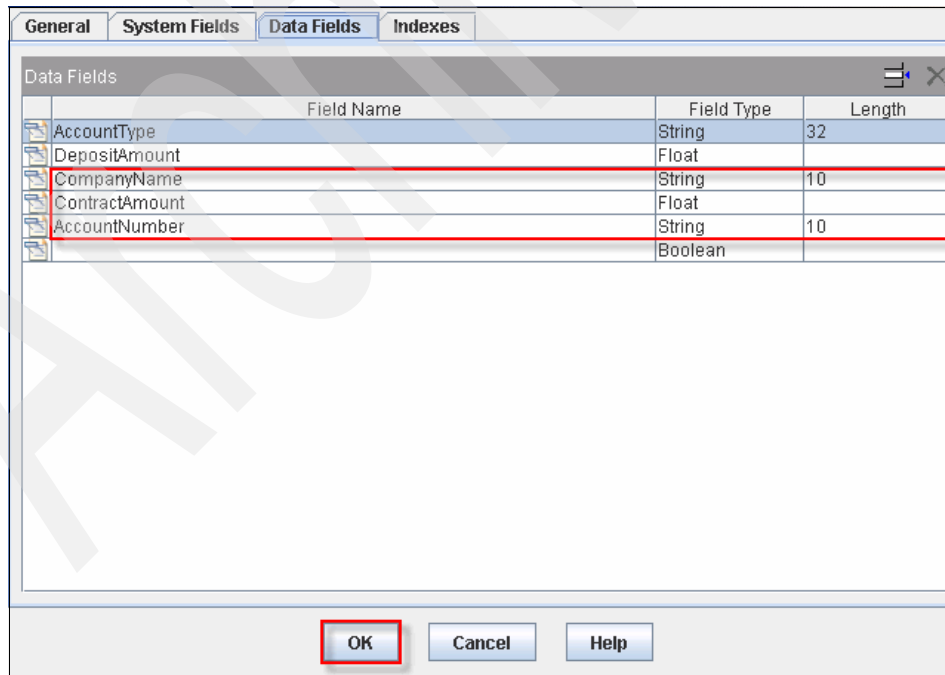

Figure 7-38 Event Logs: Data Fields
12. In the next window (Figure 7-38), click the **Data Fields** tab and enter three data fields: **CompanyName** (String), **ContractAmount** (Float), and **AccountNumber** (String). These fields are used in the Contract Management Workflow and ultimately monitored by using IBM WebSphere Business Monitor. Click **OK**.